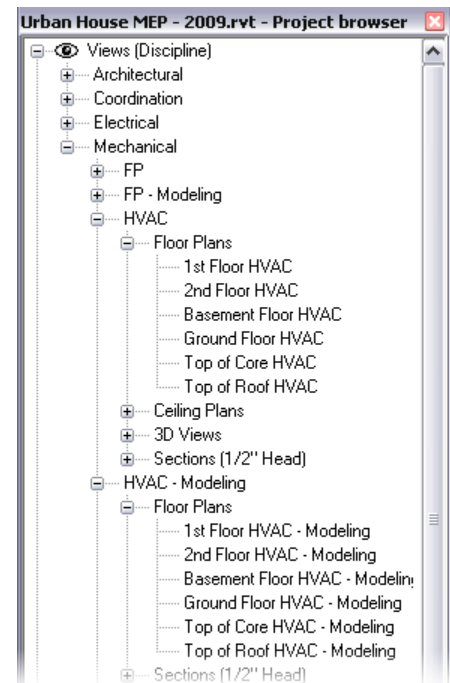

Figure 1 - Modeling and Sheet Views
- Differentiate Modeling Views from Sheet both in View Name and Sub-Discipline, as see to the right in Figure 1. This will provide a logical organization of the view for users, and help to ensure proper usage.